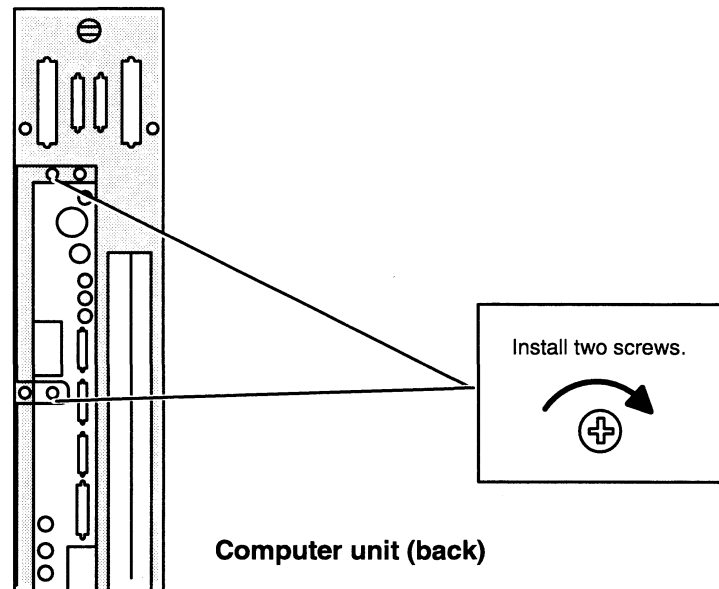

Figure 9-16 Securing the I/O Expansion Board to the Computer Unit Bulkhead
4. Align the expansion board brackets with the holes in the system board bracket and computer unit bulkhead, and insert the two screws as shown in Figure 9-16.